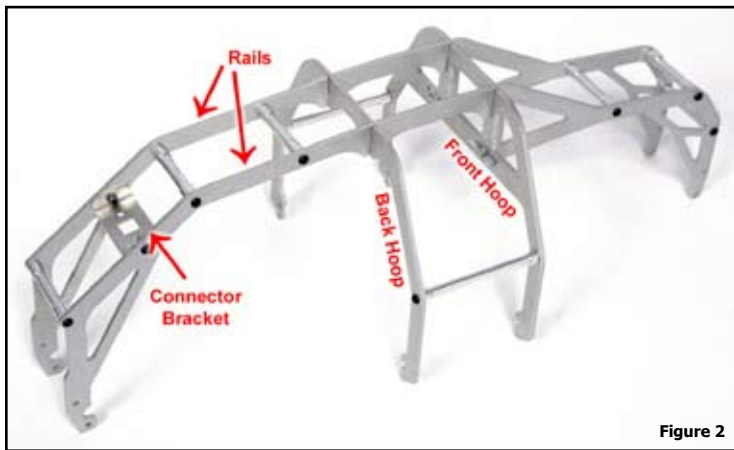

Figure 2
2. Assemble the *Roll Cage* as shown in *Figure 2*. Hold the two *Rails* parallel and fit the *back hoop* into position. There is no left or right to the rails. Temporarily secure the assembly with a single *Middle Spacer* and (2) *M3x8 BHCS*. Leave the *spacer screws* slightly loose. Gently work the *Front Hoop* into place, but do not bend or force it together. Secure the *Front Hoop* with (2) *Body Clips*.